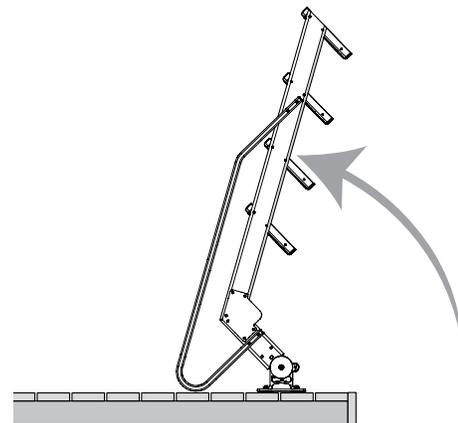

Fig. 8-2
- While one worker holds the hand rails in place, the second worker raises the Nauti Steps out of the water (see Figure 8-2).